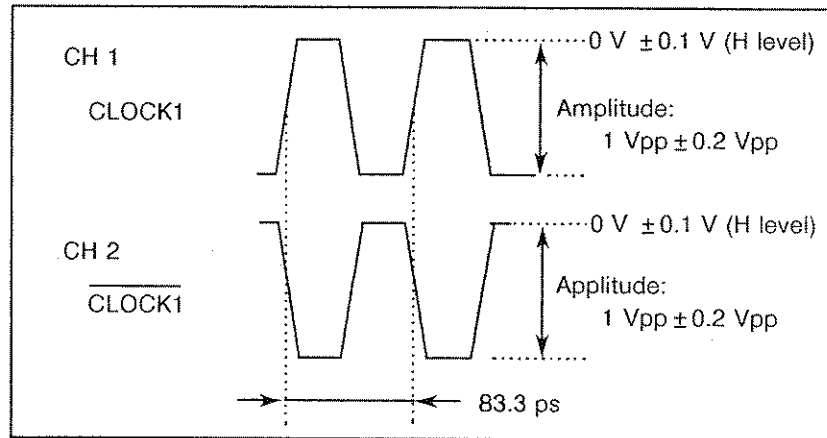

Figure 8-9 CLOCK1, $\overline{\text{CLOCK1}}$ Output Waveform (TO 0V, $f = 12000$ MHz)
- (7) Confirm that the waveform is a rectangular wave as shown in Figure 8-9.